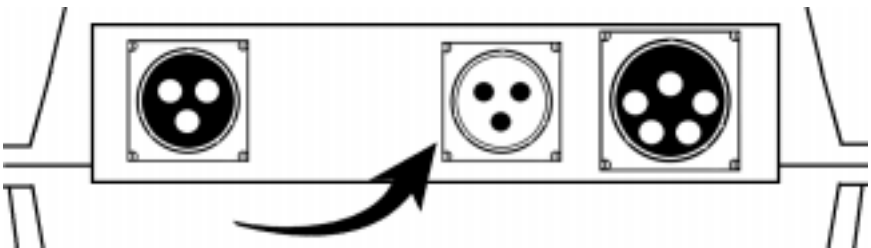

Figure 2.3
- Connect the power connector to the auto panel. Figure 2.3